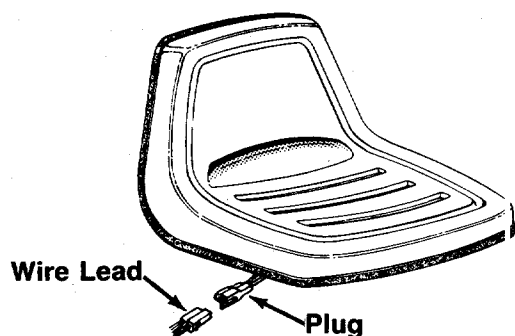

FIGURE 4.
2. Plug the wire lead which is in the wire harness beneath the seat into the plug on the wire lead extending from the right hand side of the seat. Make certain to route the wire so the wire is not pinched when raising and lowering the seat. See figure 4.